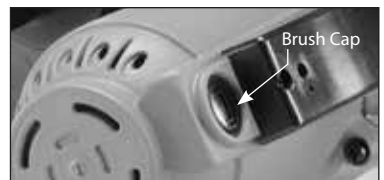

Fig.12
1. Remove the brush caps and withdraw the old brushes. See fig.12